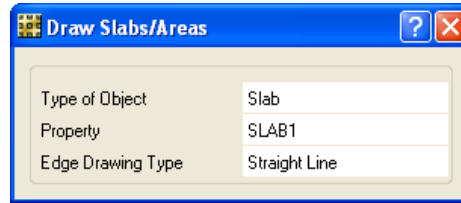

Figure 71 Draw Slabs/Areas form
- E. Click the **Draw menu > Draw Slabs/Areas** command to access the Draw Slabs/Areas form shown in Figure 71. If the Draw Slabs/Areas form covers part of the model, click on the blue title bar, hold down the mouse button, and drag it out of the way.